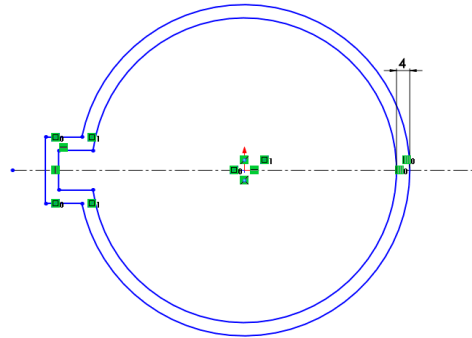

Figure 3-70 Sketch after offsetting the outer loop
- Offset the entire sketch, refer to Figure 3-70.
The sketch after offsetting the outer loop is shown in Figure 3-70.